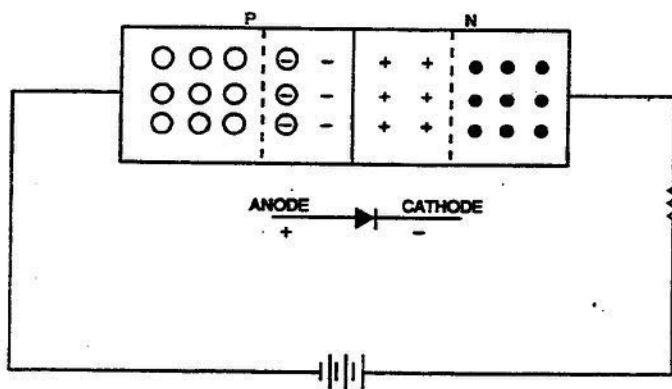

Figure 3-3. Reverse-biased PN junction.
**Reverse bias.** When an external EMF is applied to a PN junction with the negative polarity connected to the P-type material and the positive polarity connected to the N-type material, the junction is reverse biased. This action increases the width of the depletion region. Let us follow the action in figure 3-3, which shows the electrical symbol for a diode just below the PN junction.